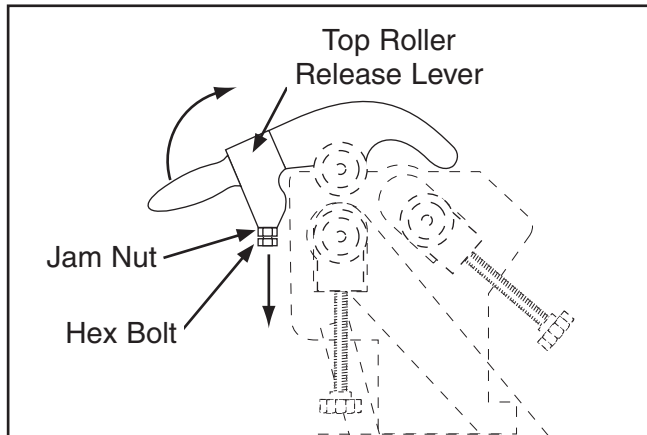

Figure 28. Hex bolt and jam nut.
1. Loosen the jam nut and hex bolt until the top roller release lever can be lifted (**Figure 28**).